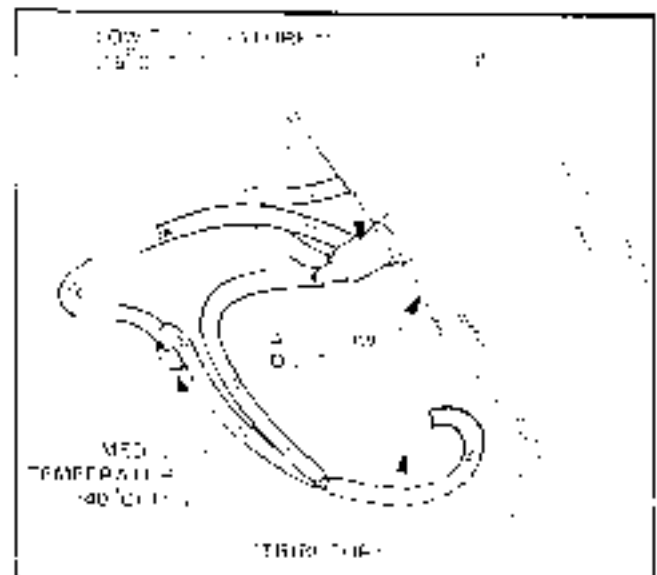

Figure 6E-8
- The necessary vacuum hoses to connect the components. Refer Fig. 6E-8 for component layout.
Operation - Refer Fig. 6E-9